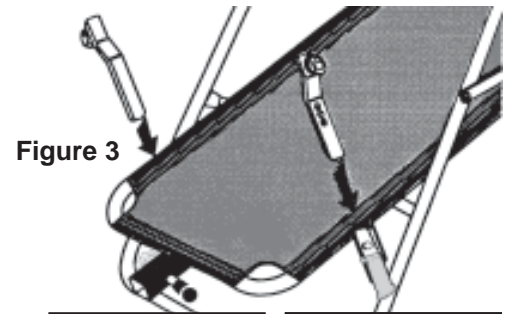
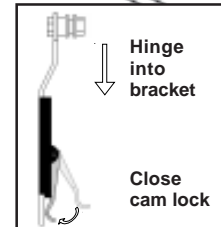

Figure 3
Figure 3A
- With the grooved pivot pins facing out, insert the roller hinges into the brackets on each side of the table frame. (See Figure 3) The roller hinges will slide between the cam locks and the brackets. (See Figure 3A)